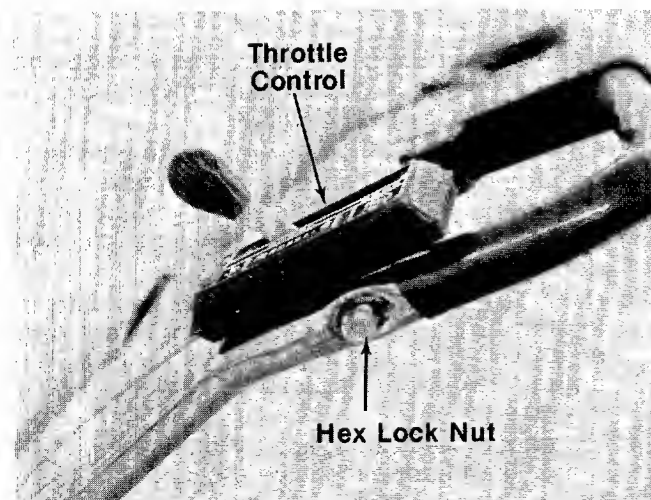

FIGURE 3.
5. Place the throttle control in position on left side of upper handle. Secure with hex bolt and lock nut. See figure 3.